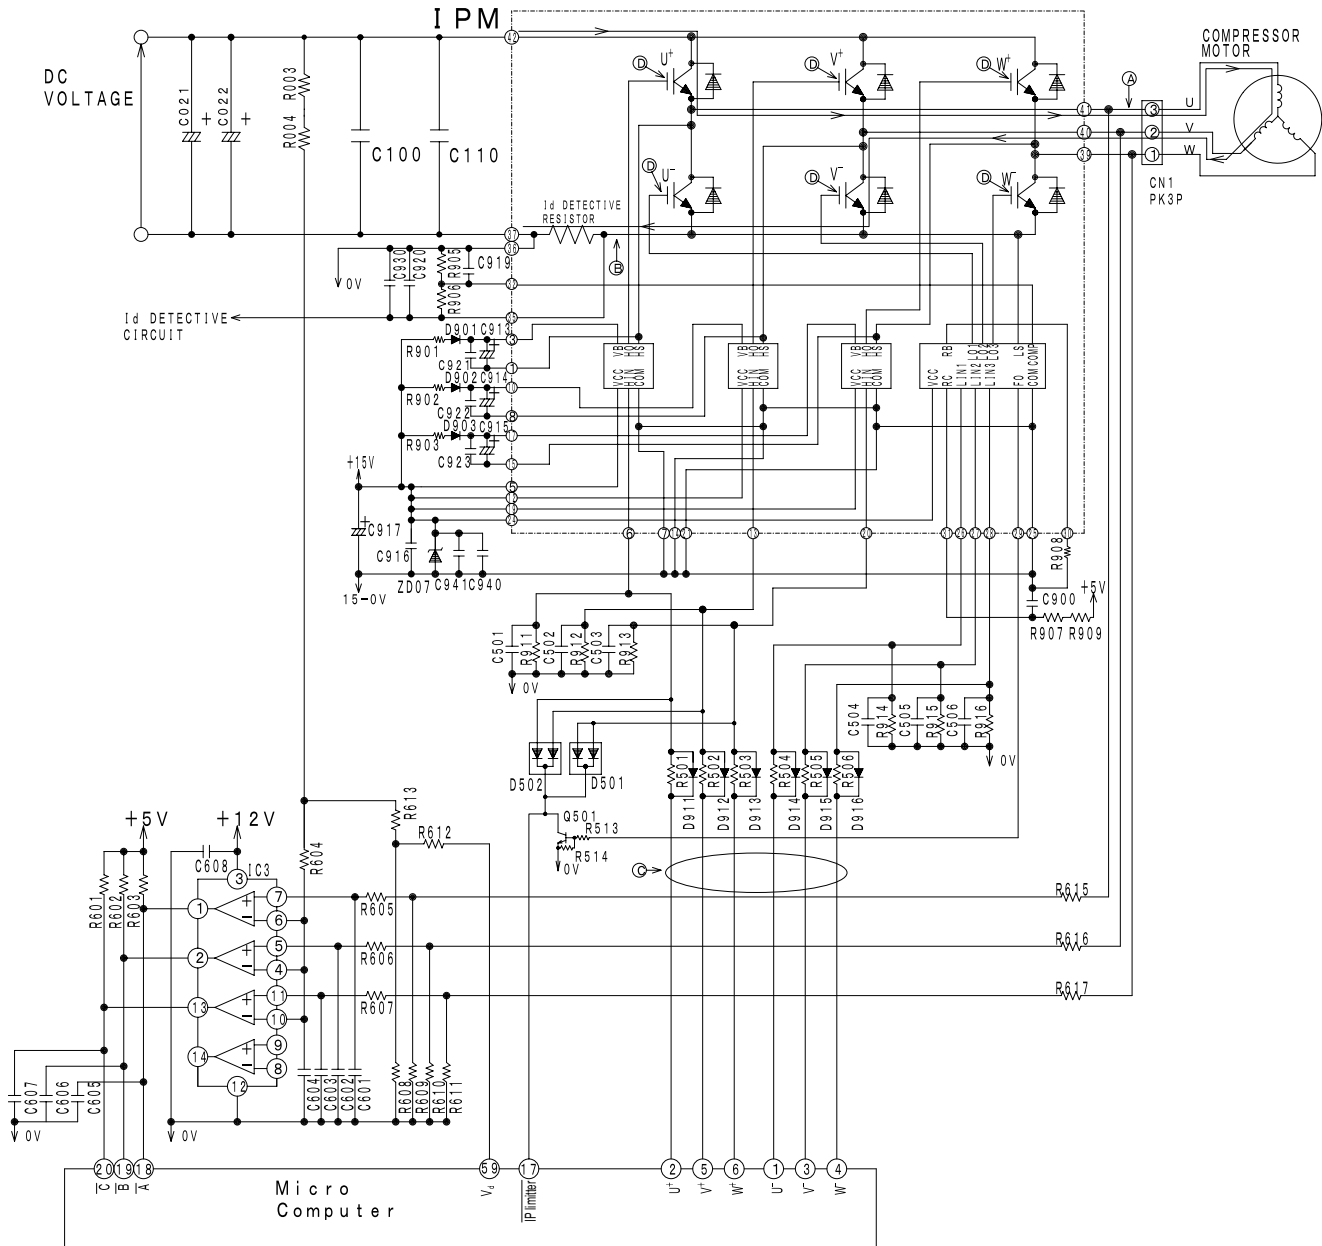
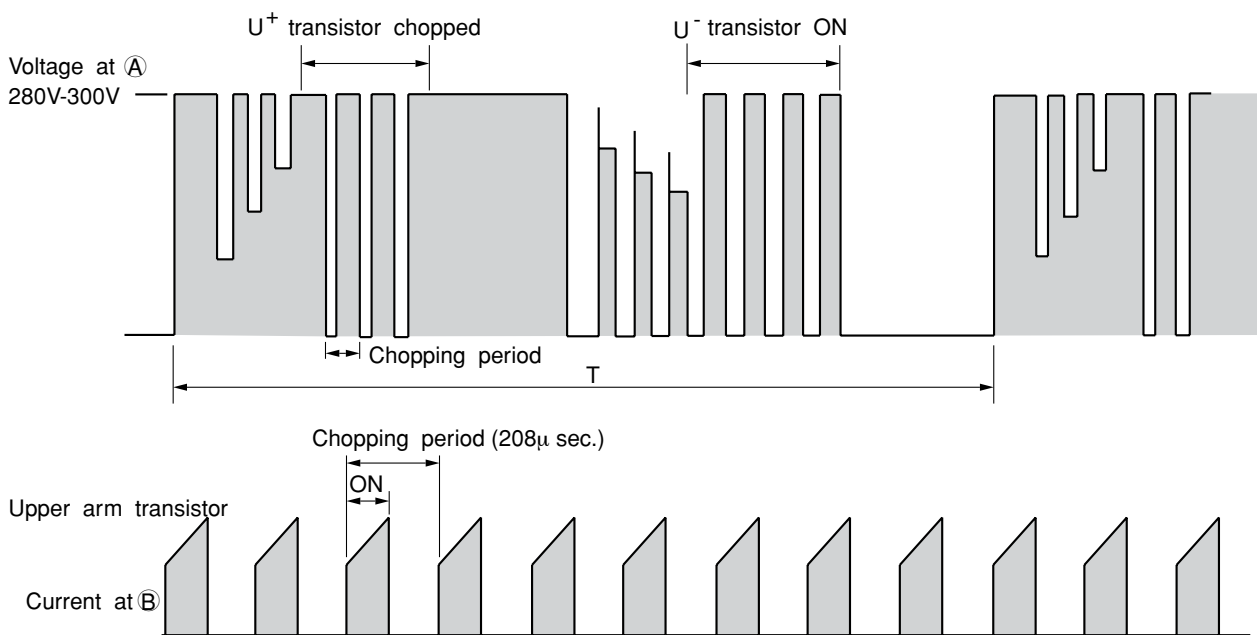

Fig. 4-1 Intelligent power module circuit (U+ is ON, V is ON)
Fig. 4-3 Voltage waveform at each point
- Fig.4-1 shows the intelligent power module and its peripheral circuit. The three transistors on the positive e side are called the upper arm, and the three transistors on the negative d side, the lower arm.
At point ⑤: U+ is ON, V- is ON (circuit in Fig.4-1)
Fig. 4-3 shows voltage waveform at each point shown in Figs. 4-1 and 4-4. First half of upper arm is chopper, second half is ON, and first half of lower arm is chopper, second half is ON.
- (1) When U+ transistor is ON: U+ transistor → U coil → V coil → V- transistor → DC current detection resistor → Point ⑥ (Fig. 4-1)
Since current flows at point B only when  $U^+$  transistor and  $V^-$  transistor is ON, the current waveform at point B becomes intermittent waveform as shown in Fig.4-3. Since current at point B is approximately proportional to the input current of the air conditioner, input current is controlled by using DC current ( $I_d$ ) detection resistor.